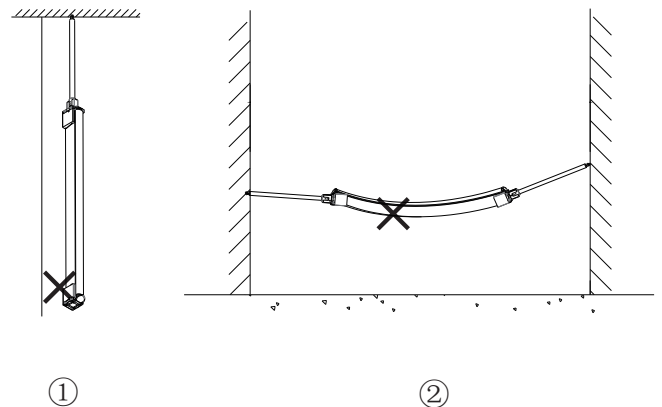

Fig. 5 Unit cutting guide
11. Cutting at the wrong location will result in a failure of the light! See Fig.5.